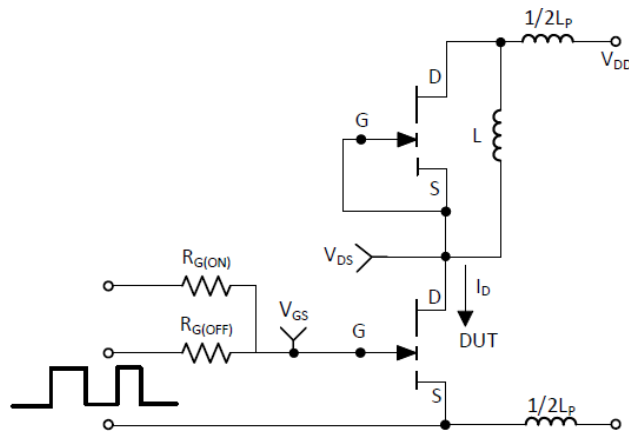

Figure 18: Switching Loss Test Circuit
(5) L_p = parasitic inductance
(6) See Figure 18 for switching loss test circuit